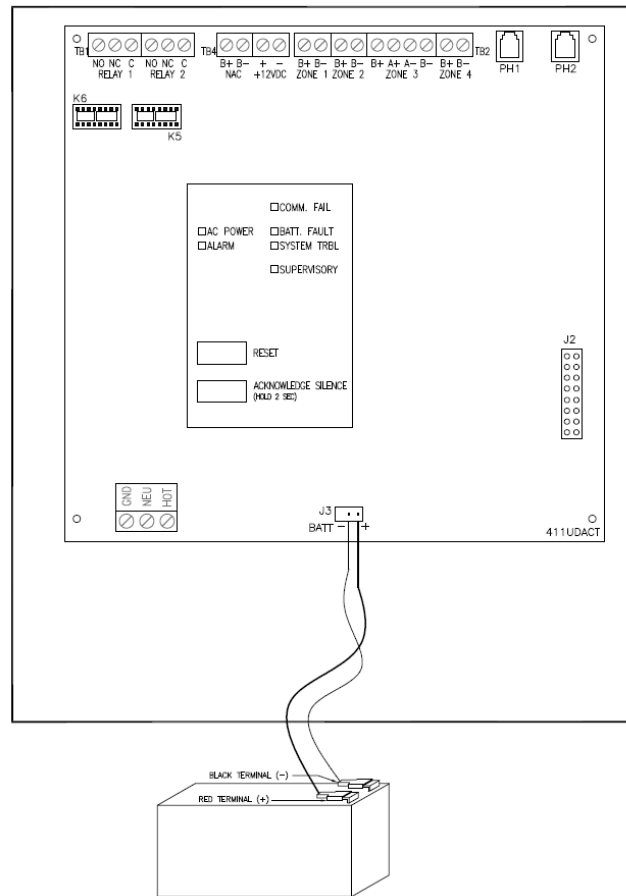

Figure 11 – Battery Wiring
3.3.5.4. Battery Wiring. See Figure 11. **DO NOT** connect battery until commissioning.